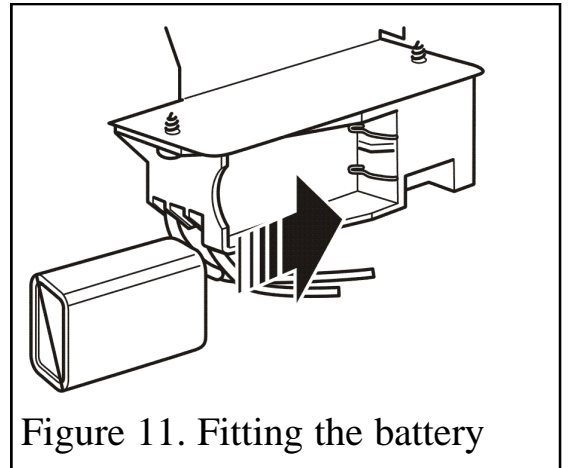

Figure 11. Fitting the battery
2. Fit the replacement battery to the ignition block. (See figure 11). The positive terminal (+) is to the top as you insert.